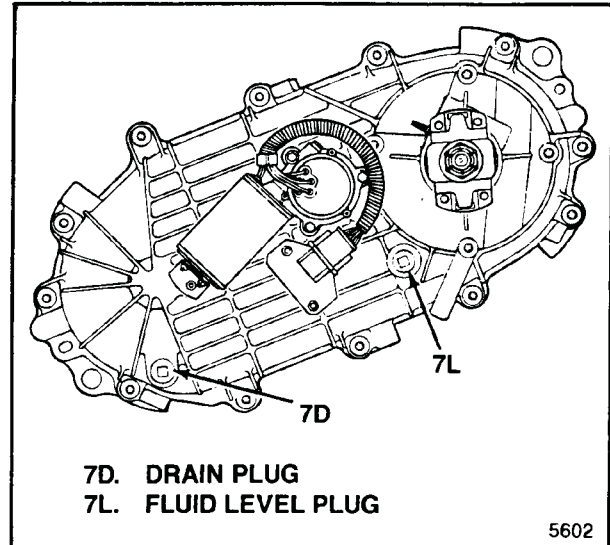

Figure 2-1. Drain and Fluid Level Plugs
- Wipe fluid level plug (see figure 2-1) and surrounding area clean.
- Wipe fluid level and drain plugs (see figure 2-1) and surrounding areas clean.
- Place drain pan under transfer case and remove transfer case drain (7D) and fluid level (7L) plugs (see figure 2-1). Drain all fluid from transfer case and re-install plugs.
- On mechanical shift units, disconnect shift linkage from transfer case shift lever (77).